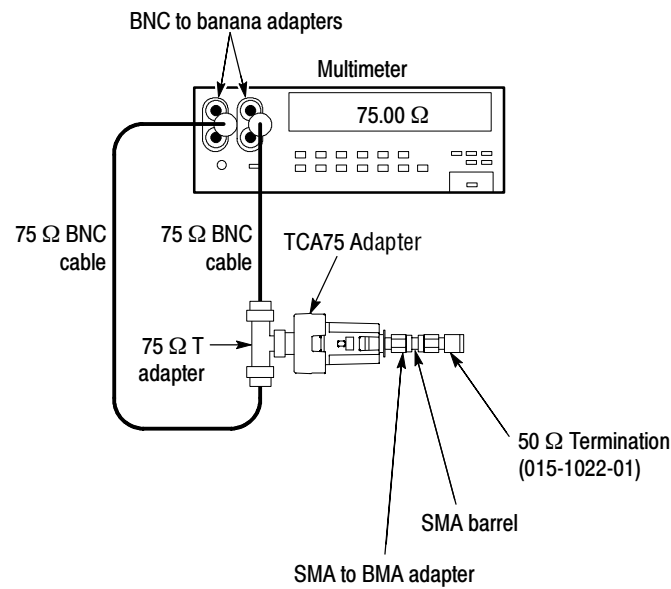

Figure 5: Test setup for input impedance
1. Connect the TCA75 adapter as shown in Figure 5.